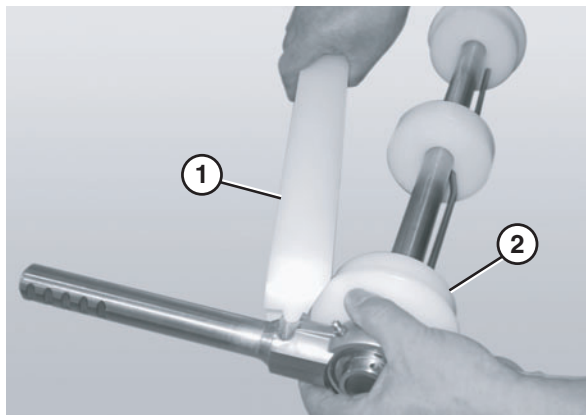

Figure 88
3. Attach the flanged pucks (**Figure 88, item 2**) and bearing shaft assemblies to the idler shaft.
4. Attach the guard bar (**Figure 88, item 1**).